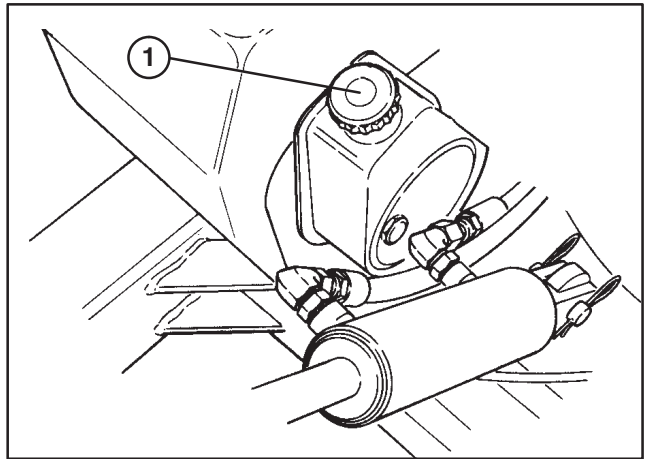

Figure 7
2. Remove dipstick cap (Fig. 7) from filler neck and wipe it with a clean rag. Insert dipstick cap into filler neck; then remove it and check level of fluid. If level is not within 1/2 inch from the full mark on dipstick, add SAE 10W-30 engine oil to raise level to full mark. Do not overfill.